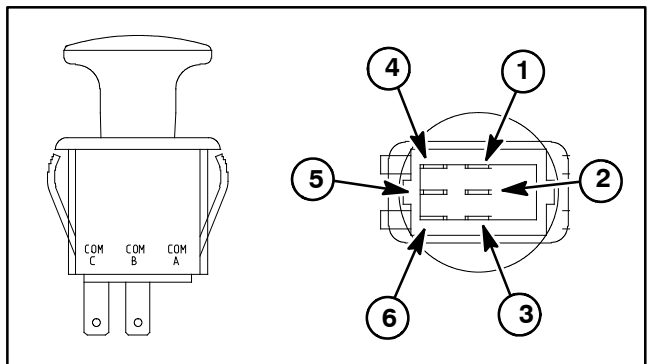

Figure 36
5. The switch terminals are marked as shown in Figure 36. The circuit logic of the PTO switch is shown in the chart below. With the use of a multimeter (ohms setting), the switch functions can be tested to determine whether continuity exists between the various terminals for each switch position. Verify continuity between switch terminals. Replace PTO switch if testing identifies that switch is faulty.